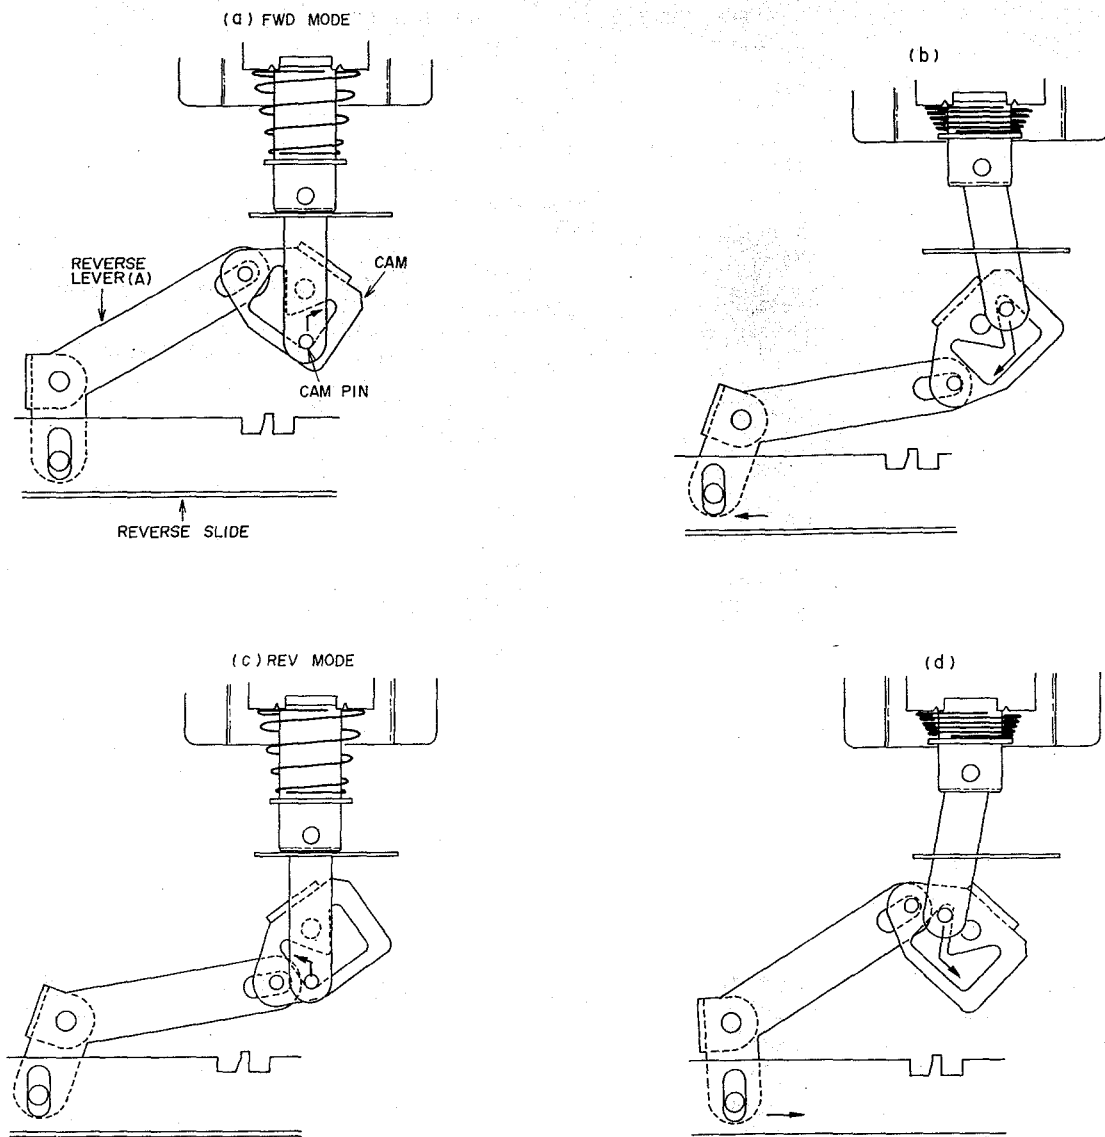

Fig. 6
1) The situation in the FWD Mode is shown in Fig. 6(a). When the Direction Switch is depressed to change into the REV Mode, the reverse plunger operates instantaneously and the cam pin moves along the cam groove in direction of the arrow (a). The reverse slide moves to the left (Refer to Fig. 6(b)) by the movement of the reverse lever (A). And since the Reverse Plunger operates on instantaneously by the Sys. Con. circuit, the
situation is fixed at REV Mode (Fig. 6(c)) after the cam pin moves in the direction of the arrow (Fig. 6(b)).
2) Next, to change from the REV Mode to the FWD Mode, depress the Direction Switch. Same operation as in 1) takes place: the moment the reverse plunger operates is as in Fig. 6(a), when the reverse plunger returns the situation is as in Fig. 6(a), and then the FWD Mode is fixed.